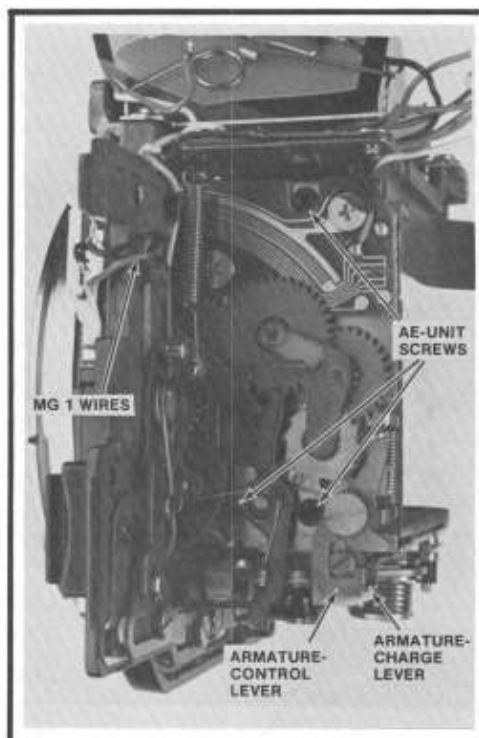
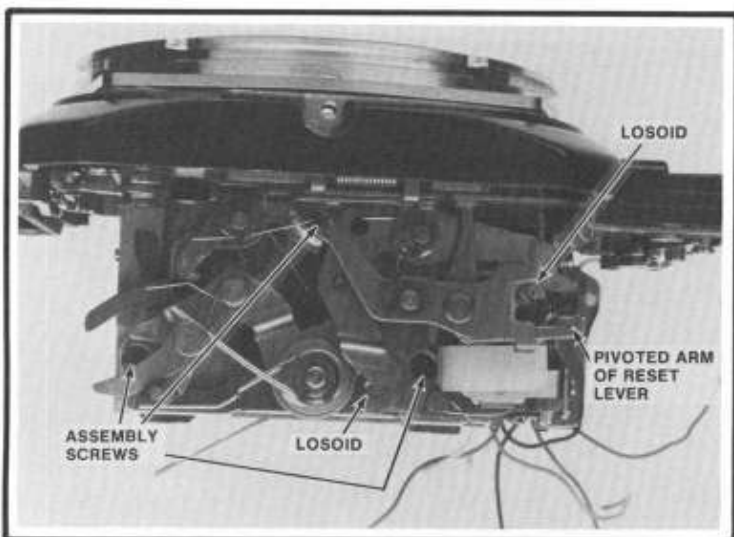

Figure 54
Figure 56 Auto Diaphragm Unit
3. Pull the red and black MG1 wires loose from the cement on the back of the front plate, Fig. 54. The wires remain attached to MG1. You'll find it easier to reroute the wires if you first remove the stop-down slide.
5. Remove the three screws holding the AE unit, Fig. 54. The screws for the AE unit are longer than the screws holding the other two units. Now pull the AE unit a slight distance from the mirror housing—that moves MG1 away from one of the screws holding the auto-diaphragm unit, Fig. 56.
6. Remove the three screws holding the auto-diaphragm unit, Fig. 56.
2. Assemble the AE unit to the auto-diaphragm unit. Make sure the pivoted arm of the reset lever hooks behind the S.AVE-contact latch, Fig. 56. Also hook the armature-charge lever behind the lower end of the armature-control lever, Fig. 54.